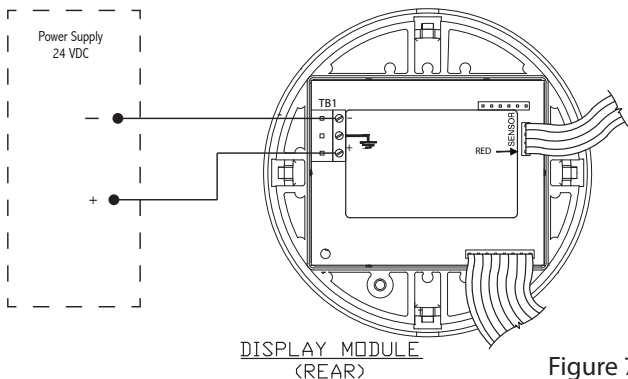

Figure 7
**NOTE:** As an alternative to loop power, model 1XTXSW may be wired directly to a 24 VDC power supply (+) and minus (-) terminals (see Figure 7, Page 7). In this wiring configuration, power is provided for all switching and diagnostic functions but the 4-20 mA analog output is not used. The digital display will provide the process variable. This alternative method of powering the One Series may be used when loop power is not available and a 4-20 mA output is not desired.